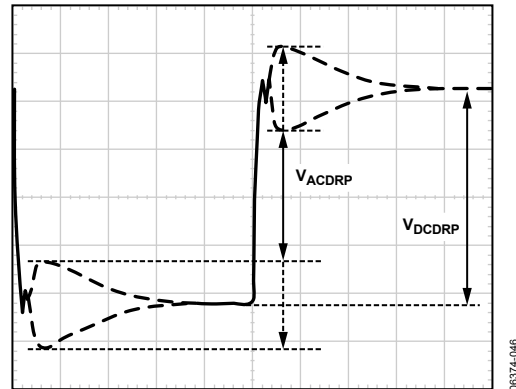

Figure 27. AC Load Line Waveform
5. The resulting waveform will be similar to that shown in Figure 27. Use the horizontal cursors to measure V_{ACDRP} and V_{DCDRP} , as shown in Figure 27. Do not measure the under-shoot or overshoot that occurs immediately after the step.